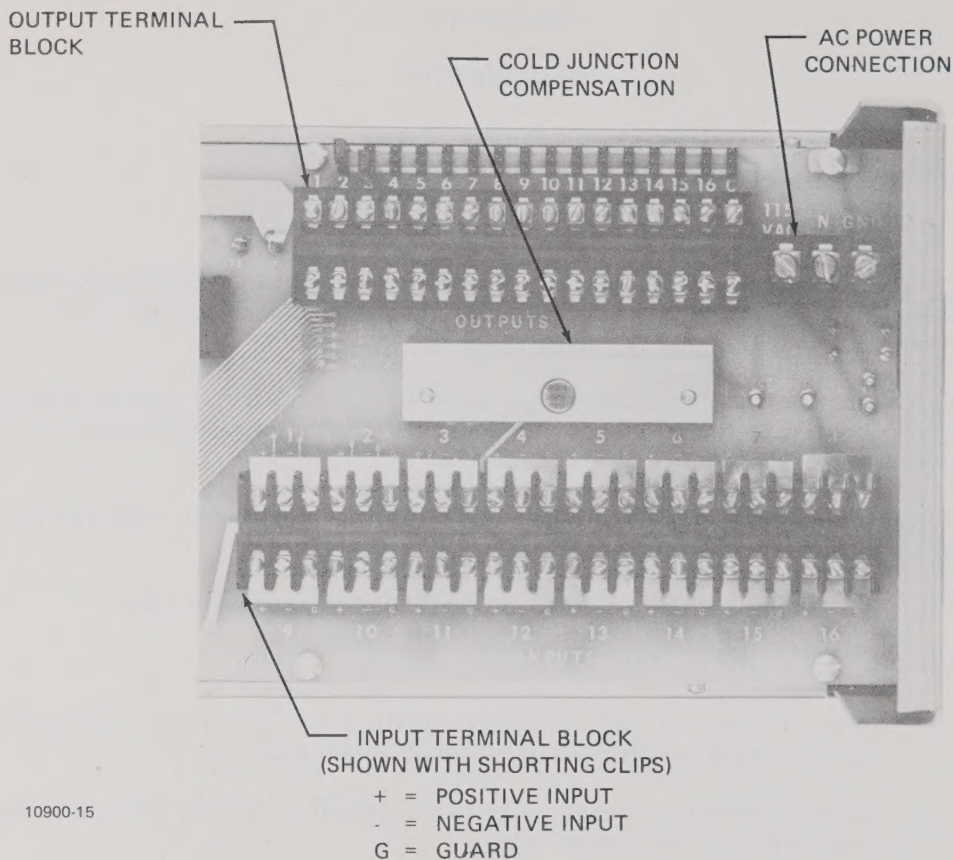

Figure 2.1 - Input-Output Connections
- 2.1.1 Inputs (See Figure 2.1) The WJ-984 accepts up to 16 thermocouple inputs. All standard NBS types are available and all are linearized to $\pm 1^{\circ}\text{C}$. Source resistance can be up to 1K ohm.
- 2.1.2 Outputs (See Figure 2.1) The following output types are available for all 16 channels: